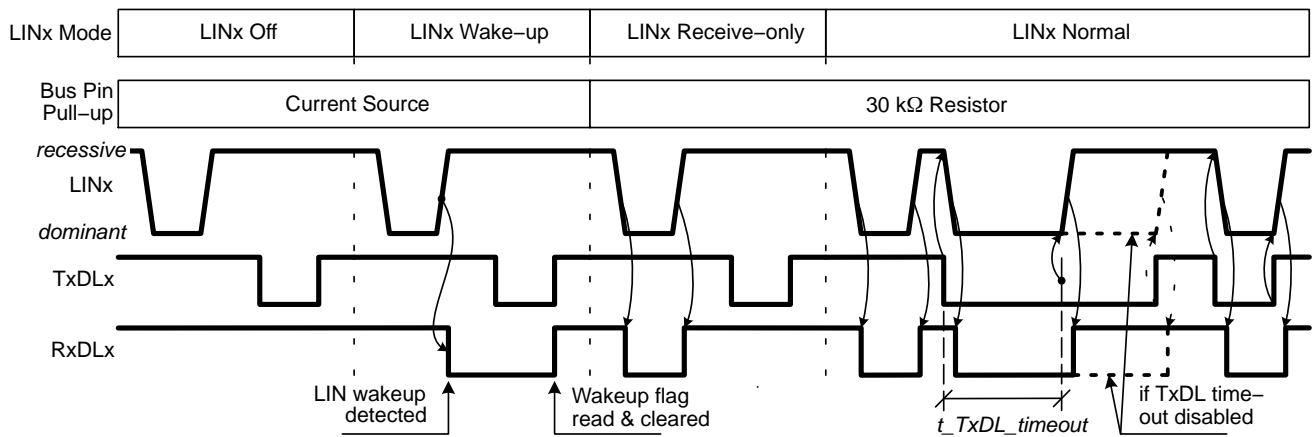

Figure 9. LIN Transceiver Modes
NCV7471(A) integrates two on-chip LIN transceivers – interfaces between physical LIN buses and the LIN protocol controllers compatible to LIN2.1 and J2602 specifications – consisting of a transmitter, receiver and wakeup detector. Each LIN transceiver can be connected to the bus line via LINx pin, and to the digital control through pins TxDLx and RxDLx. The functional mode of the LIN transceivers depends on the chip operating mode and on the status of the corresponding SPI bits – see Table 6, Table 7, and Figure 9. The LIN transceivers are supplied directly from the VS pin.